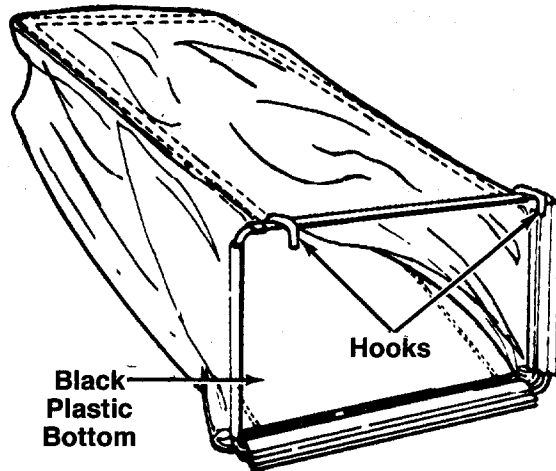

FIGURE 13.
2. Place the frame inside the grass catcher bag. The bottom of the grass bag is black plastic. The hooks on the front frame go toward the top of the bag. See figure 13.
To charge the battery, first remove the protective cap from the end of the battery pack lead. See figure 13. Always plug charger lead into the battery pack lead before inserting battery charger plug into 120 volt standard household outlet.